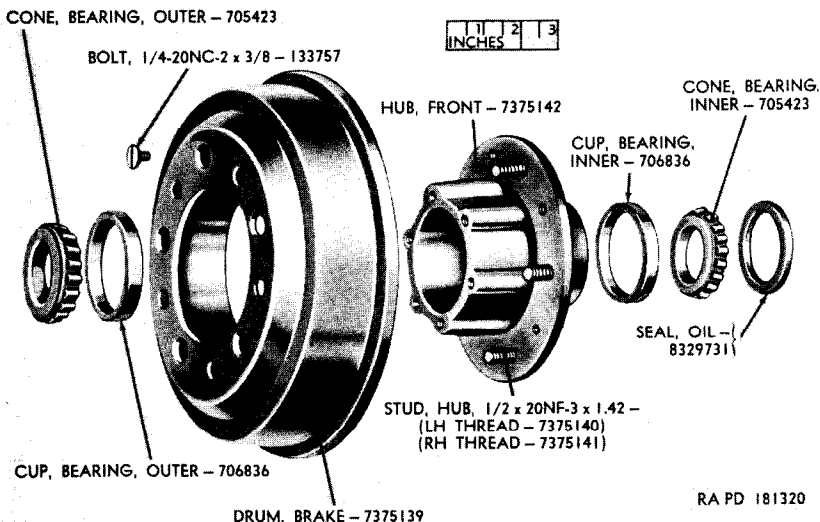
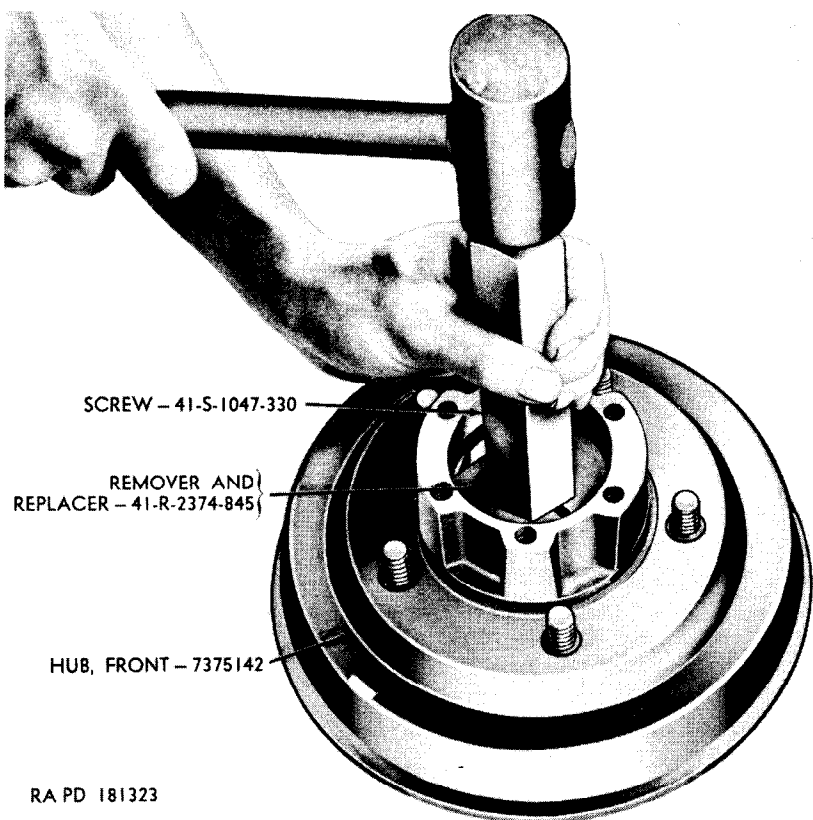

Figure 184. Front wheel hub and brakedrum—disassembled view.
Figure 187. Installing front wheel hub bearing cup.
- (1) *Front hubs* (fig. 184). Remove three bolts which secure the brakedrums to the front hubs. Pull the brakedrums from front hubs. Remove the two inner and outer bearing cones and the oil seal from within each front hub. Do not remove the two inner and outer bearing cups from within each front hub unless inspection (par. 267a) reveals them unserviceable. To remove bearing cups, use remover and replacer 41-R-2374-845 with screw 41-S-1047-330 (fig. 187).
- (3) *Hub studs* (figs. 184 and 185). Do not remove the hub studs from the front and rear hubs unless inspection (par. 267a) reveals that they must be replaced. To remove a hub stud; drive it out of hub.
- (2) *Front and rear hubs* (figs. 184 and 185). Carefully inspect the front and rear hubs for cracks, wear, and damage. Replace hub, if damaged. Examine the front hub inner and outer bearing cups for chipped spots, cracks, or wear due to contact with inner and outer bearing cones. Replace worn or damaged bearing cups. Bearing cups must have a tight
- (2) *Front and rear hubs* (figs. 184 and 185). Remove all raised metal at nicks with a fine mill file. Replace front hub oil seals at each rebuild.
b. Front Hubs (fig. 184). If the inner and outer bearing cups were removed from front hub, use remover and replacer 41-R-2374-845 with screw 41-S-1047-330 to drive the two bearing cups into proper position in hub (fig. 187). Lubricate interior of front hub with layer of proper lubricant. Lubricate the inner roller bearing cones with